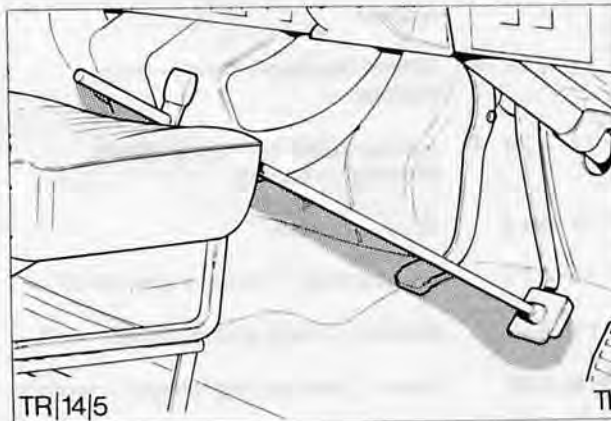

Fig. 5 Foot brake pedal depressor
7. Fit pedal depressor to footbrake to lock front wheels, Fig. 5.